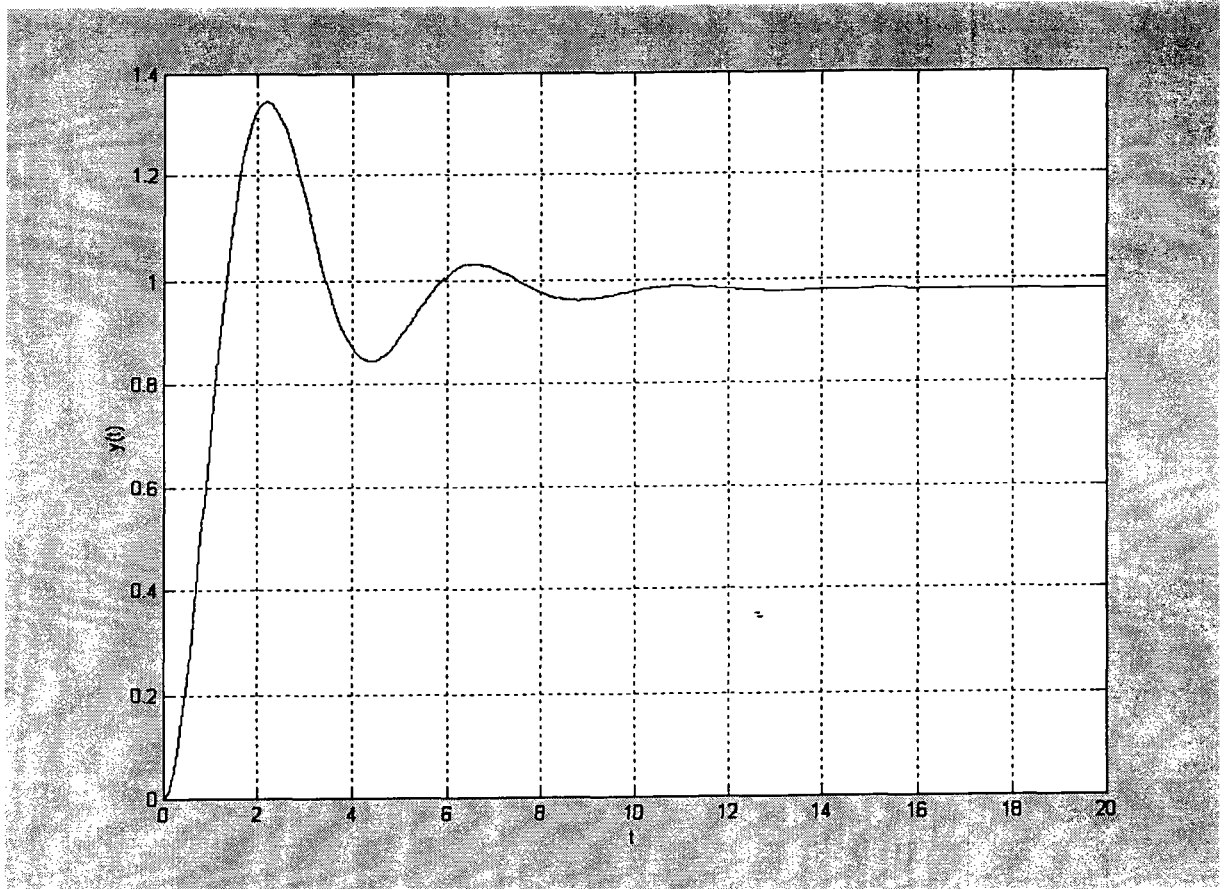

Figure Q3[a]
- Q3. [a] Figure Q3[a] shows the response of a mass, spring and damper system when a unit step input is applied. From the graph, determine the percentage of overshoot, peak time, settling time (5% of the final value), rise time and steady state error.